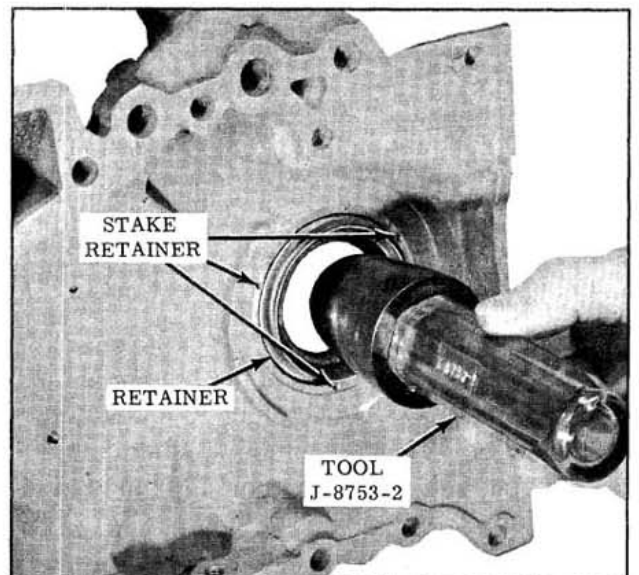

Fig. 3-20 Sizing Front Oil Seal
7. Place Tool J-8753-2 in seal and push tool a little at a time from both sides of the seal until tool goes through seal. (Fig. 3-20)